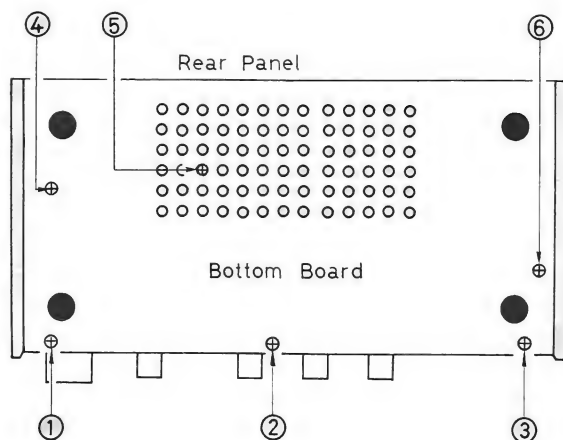

Fig. 1
1. Remove the 6 screws from the front panel, and the bottom board. (① ~ ⑥ in fig. 1)